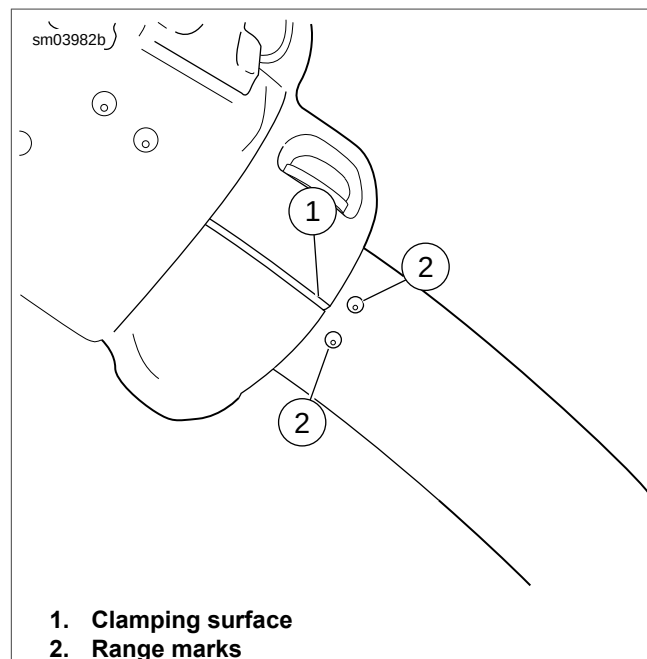
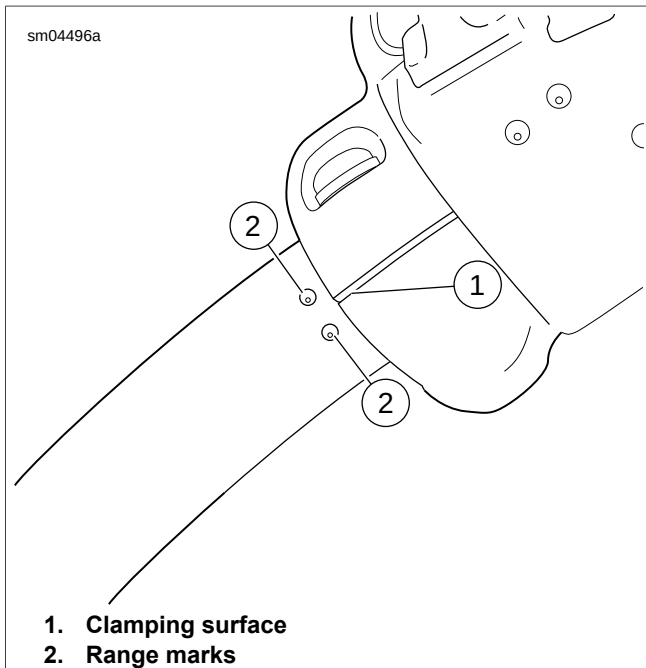

Figure 2-94. Left Hand Control Assembly to Handlebar Alignment
Figure 2-95. Right Hand Control Assembly to Handlebar Alignment
See Figure 2-94 or Figure 2-95. When installing left and right handlebar switch assemblies, make sure that clamping surface (1) stays within the range marks (2) or damage to the wires will occur.